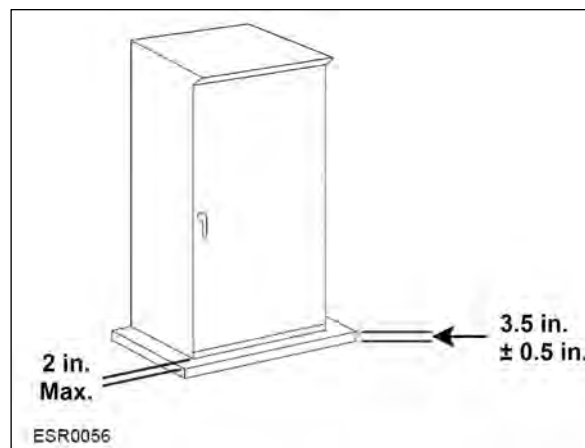

Figure 85: Concrete Pad in Front of Cabinet (Indoor Metering)
- When installing indoor switchboard metering, the customer must install a concrete pad with no more than 2 inches of concrete in front of any cabinet that contains PGE equipment. See **Figure 85** for details.